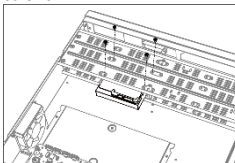

Figure 2-2 Fix HDD
Step 2 Fix the HDD on the bracket with screws. Refer to Figure 2-2.